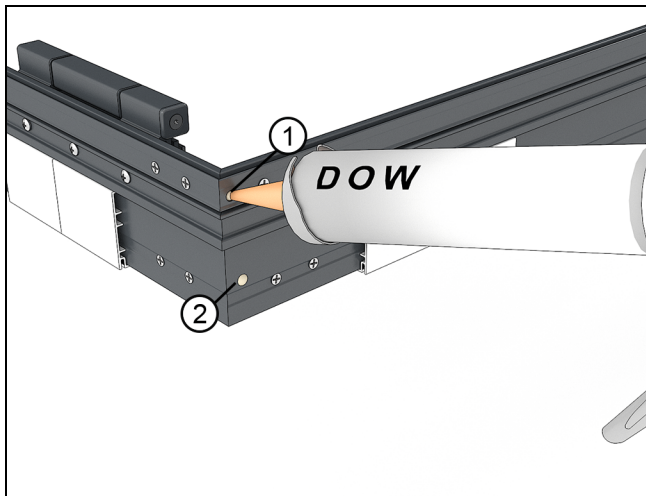

Figure 20 Inject Dow 995 structural sealant in head jamb corner.
7. At the head jamb, inject the provided structural sealant into the exterior hole until sealant comes out of the interior hole. See Figure 20.